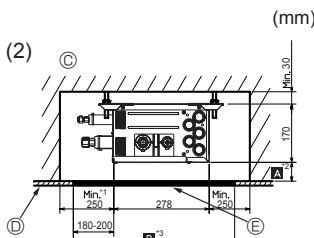
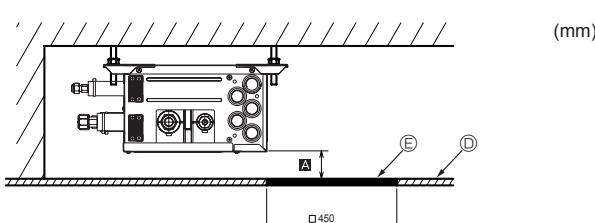
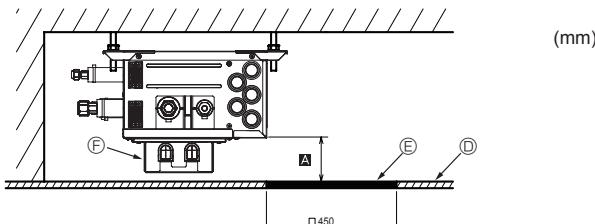

Fig. 4-7
Fig. 4-8
Fig. 4-9
(2) Side View (Fig. 4-7, Fig. 4-8, Fig. 4-9)
To install the optional Reactor Box, set Ⓐ to Min. 270 mm <recommendation> (Fig. 4-9).
In the case of "□ 450 mm", prepare a maintenance hole at a PCB side (as it is shown in Fig. 4-8, Fig. 4-9), and "Min. 300 mm" is needed as distance Ⓑ.